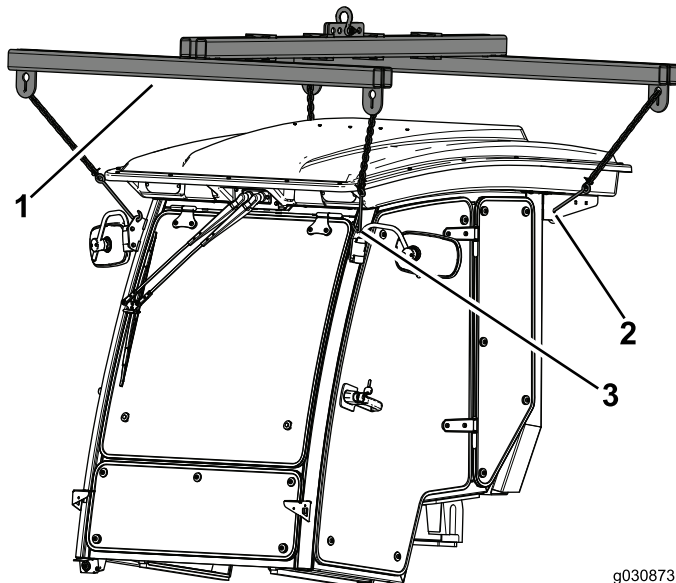

Figure 23
1. Use the 4 lift points to support the cab above the machine (Figure 23).